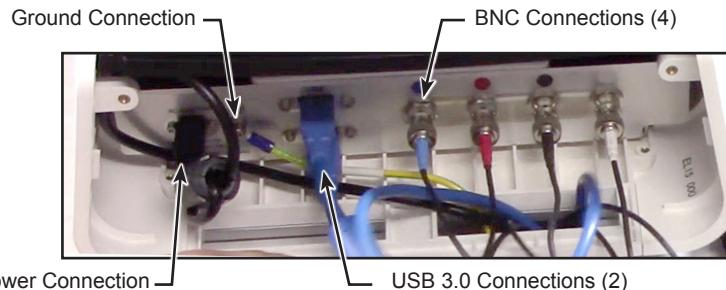

Figure 2-18 Biometer Connections
- 5.7 Connect the cables to the biometer as shown in **Figure 2-18**.